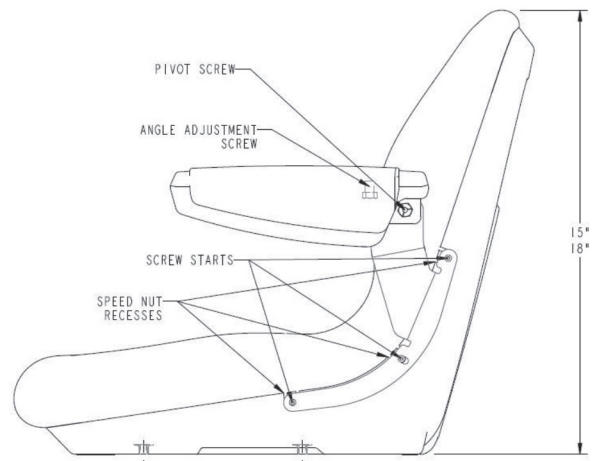

Figure 1
1. Fit the six, three per side, speed nuts into recessed areas as shown in Fig. 1. The outside surface of the shell has screw starts molded in. These screw starts are to line up with the hole center of the speed nut. The flat surface of the speed nut needs to be on the outside of the shell, and the threaded surface of the speed nut needs to be between the cushion and the shell. If there is glue on the shell surface in the speed nut recessed area, break it free from the shell with a sharp instrument (knife, flat bladed screw driver, or wood chisel with flat side to shell). This is to allow the speed nut to be fully seated.